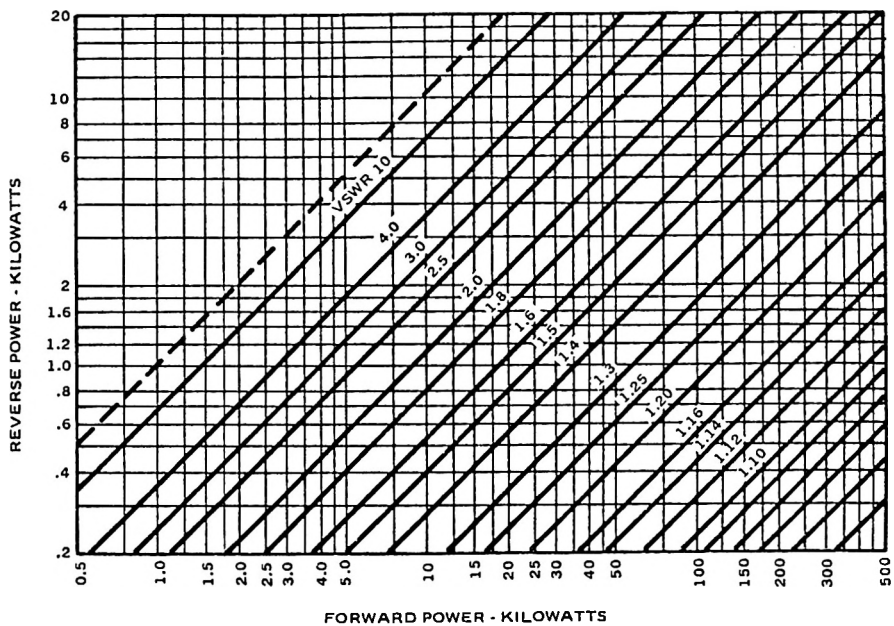

Figure 3-9. Power to VSWR Conversion Graph
27. ANTENNA SYSTEM VSWR CHECK. The RF WATTMETER and the graph in Figure 3-9 can be used for this purpose if other means are not available. Typically, VSWR is less than 1.1:1 and it must not exceed 2:1.